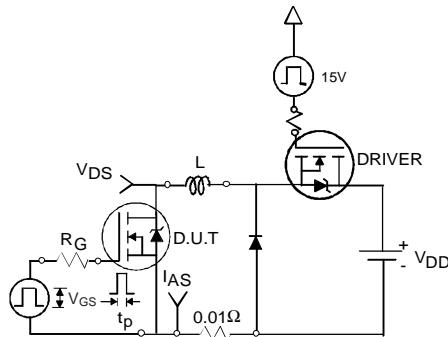

Fig 12a. Unclamped Inductive Test Circuit
- ③ $I_{SD} \leq 104\text{A}$, $di/dt \leq 240\text{A}/\mu\text{s}$, $V_{\text{DD}} \leq V_{(\text{BR})\text{DSS}}$, $T_J \leq 175^\circ\text{C}$
- ④ Pulse width $\leq 400\mu\text{s}$; duty cycle $\leq 2\%$.
⑤ $C_{\text{oss eff.}}$ is a fixed capacitance that gives the same charging time as C_{oss} while V_{DS} is rising from 0 to 80% V_{DSS} .
⑥ Limited by $T_{J\text{max}}$, see Fig.12a, 12b, 15, 16 for typical repetitive avalanche performance.
⑦ This value determined from sample failure population. 100% tested to this value in production.
3. Equation below based on circuit and waveforms shown in Figures 12a, 12b.